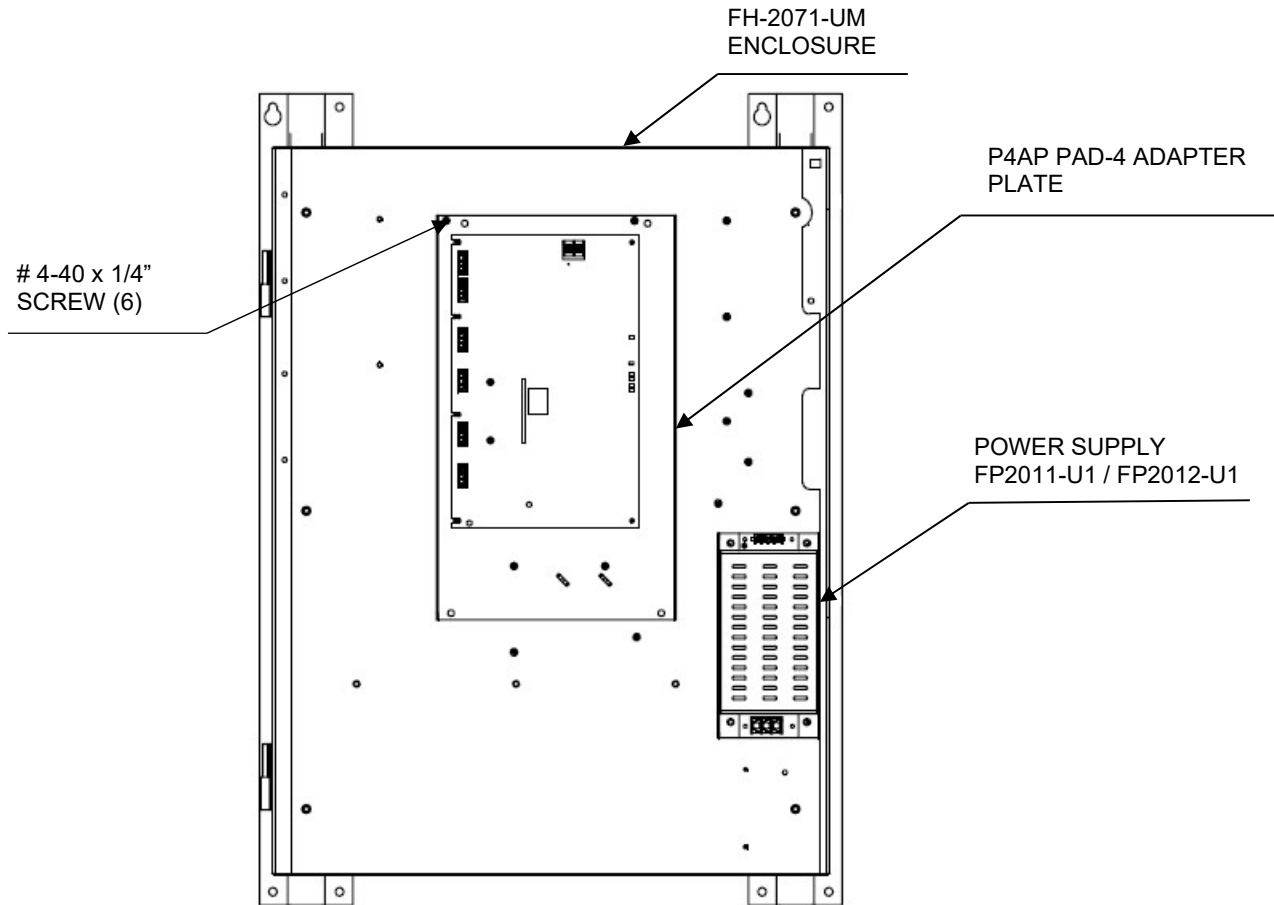

Figure 3: Mounting the Adapter Plate in a FH-2071-UM (Black)
3. Mount the adapter plate into the enclosure first, when installing it inside a 2HU Marine Enclosure, using the six (6) 4-40 x 1/4" screws provided with the FH-2071-UM enclosure as shown in Figure 3.